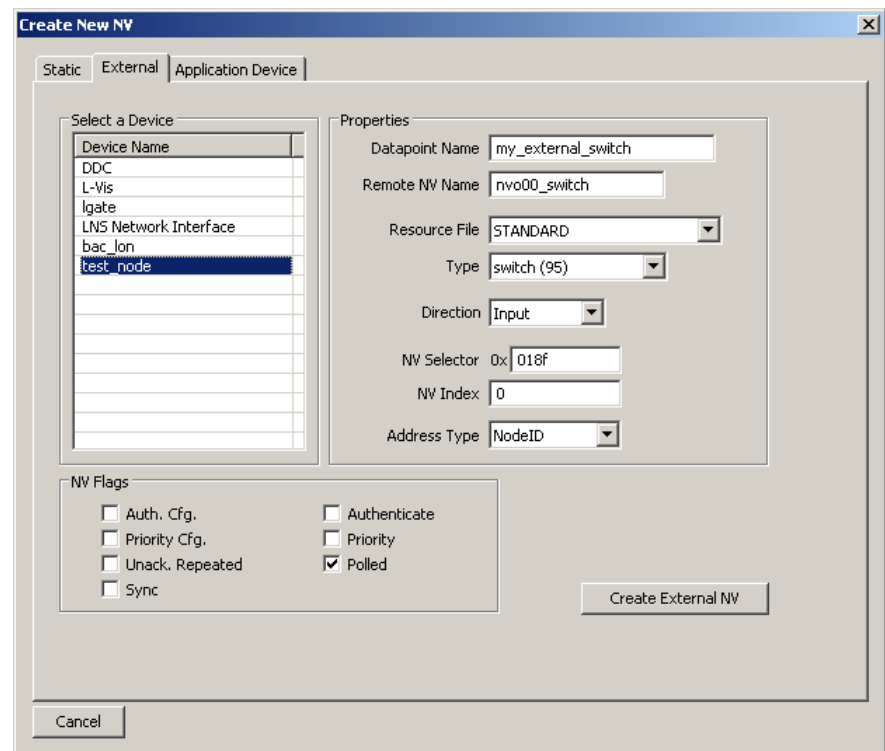

Figure 80: Create a new external NV.
3. Click on the tab **External** as shown in Figure 80.